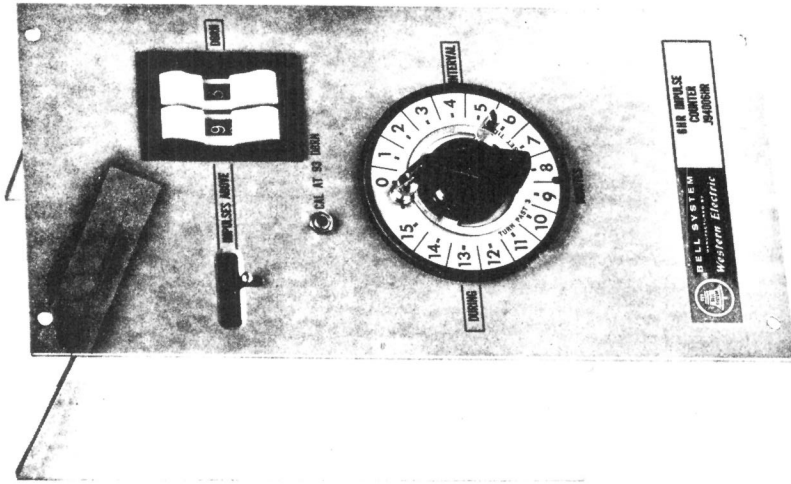

Fig. 2 - 6HR Rack-Mounted Set
2.06 The 6HR set (Fig. 2) is arranged for modular rack-mounting and operates from the -48 volt office battery.